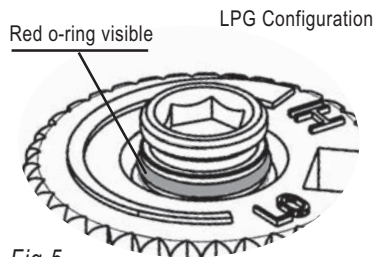

Fig.5
- 14) Verify that if the conversion is from NG to LPG, the screw must be re-assembled with the red o-ring visible (Fig. 5).